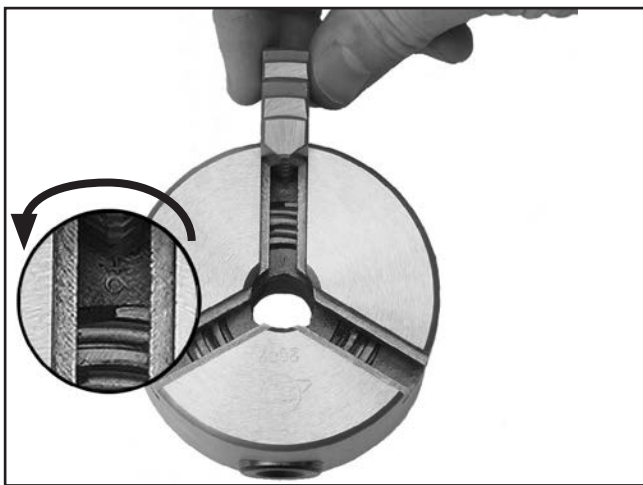

Figure 15. Lead thread.
7. Turn the chuck key clockwise while looking straight into the face of the chuck. Notice the beginning of the lead thread on the scroll come into view through the slot in a counterclockwise direction (see **Figure 15**).